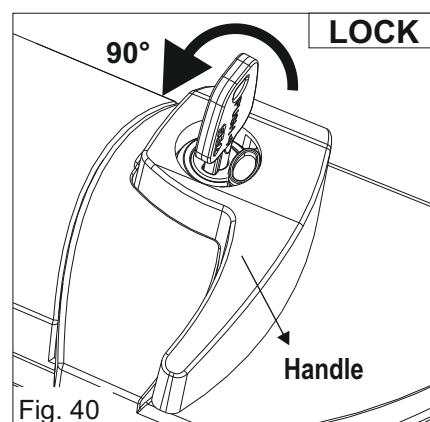

Fig. 40
- 2) Turn the key about 90° counter-clockwise (Fig. 40)